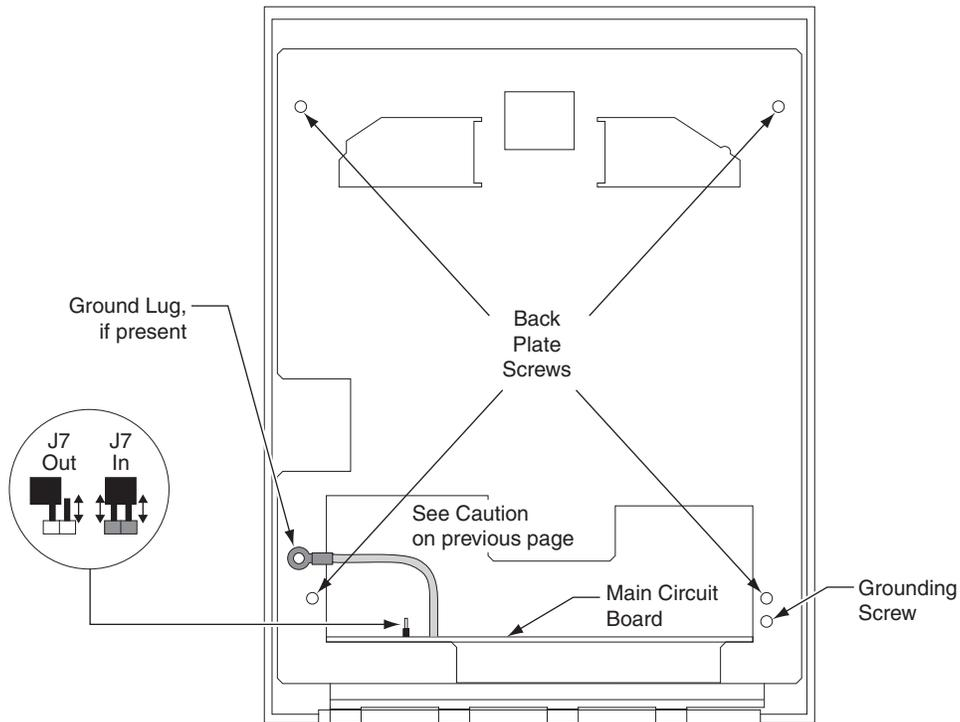

Figure 2
**▲ CAUTION:** If the unit is equipped with the optional battery backup, remove the J7 jumper before proceeding. See figure 2 on the next page for location of J7.
5. Set the reader on a firm surface such as a table. Remove the four screws that secure the back plate to the HandReader. Remove the grounding screw and/or ground lug (if present). See figure 2 below.